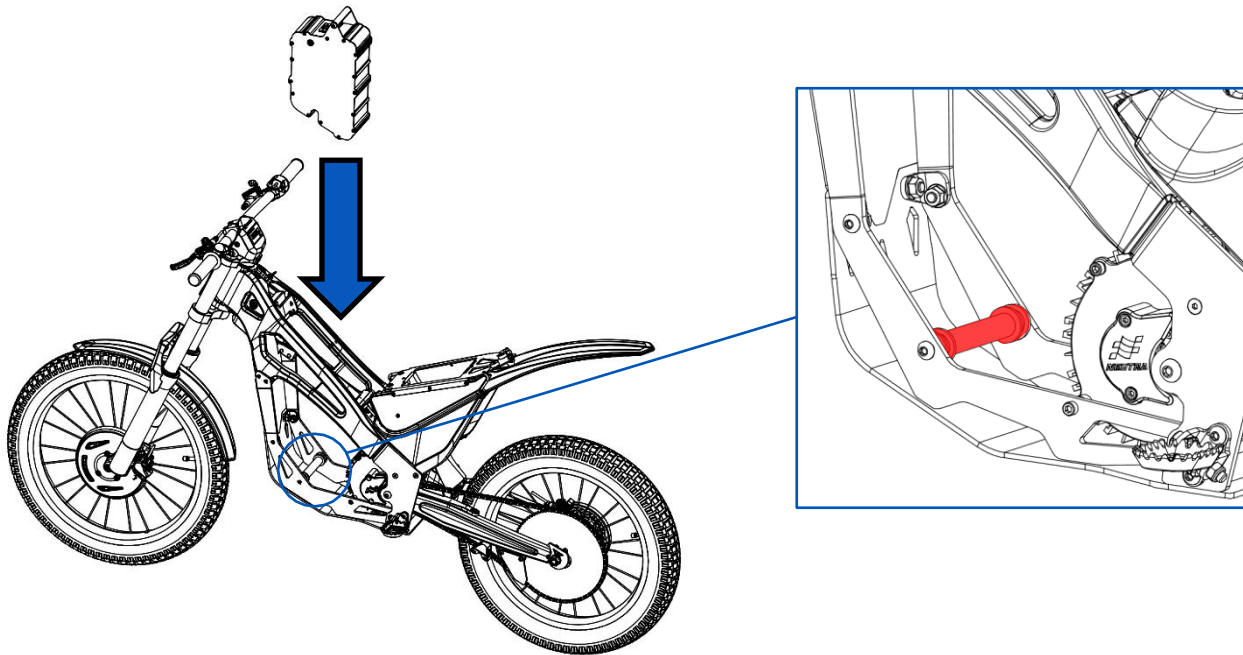

Fig. 45
- 3- Slide the battery into the interior of the motorcycle (Figure 45). Make sure that the battery socket is correctly positioned with the chassis anchor bar (marked in red in the image).